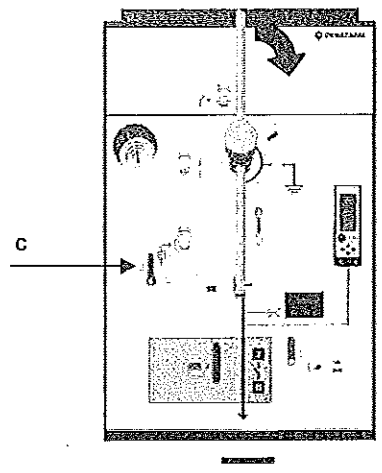

Figure 5.52: Lever Rotation Process
4. Turn the locking part (c) and slide it down to remove the interlock plate (refer to figure 5.52). Turn it again to lock it in position.